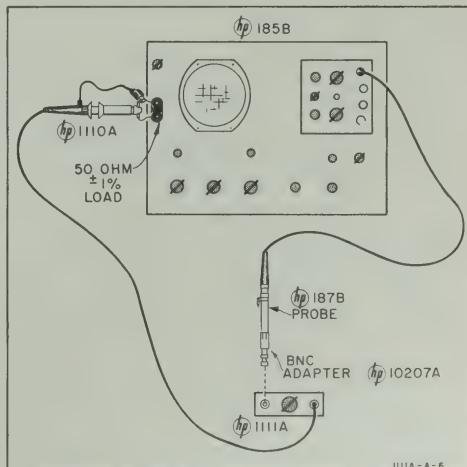

Figure 5-4. Rise Time Check Setup
a. Refer to Table 5-1 and Figure 5-4 and connect specified equipment, items 3, 6, and 9. The 50Ω load is connected to the oscilloscope sync pulse output.